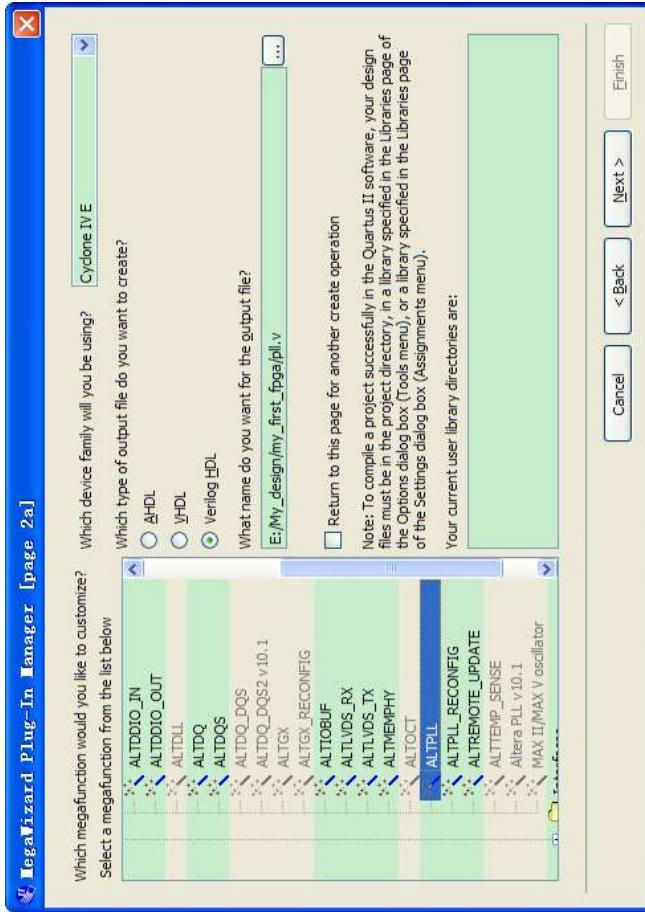

Figure 6-20 **MegaWizard Plug-In Manager [page 2a] Selections**
4. In MegaWizard Plug-In Manager [page 2a], specify the following selections (see Figure 6-20):